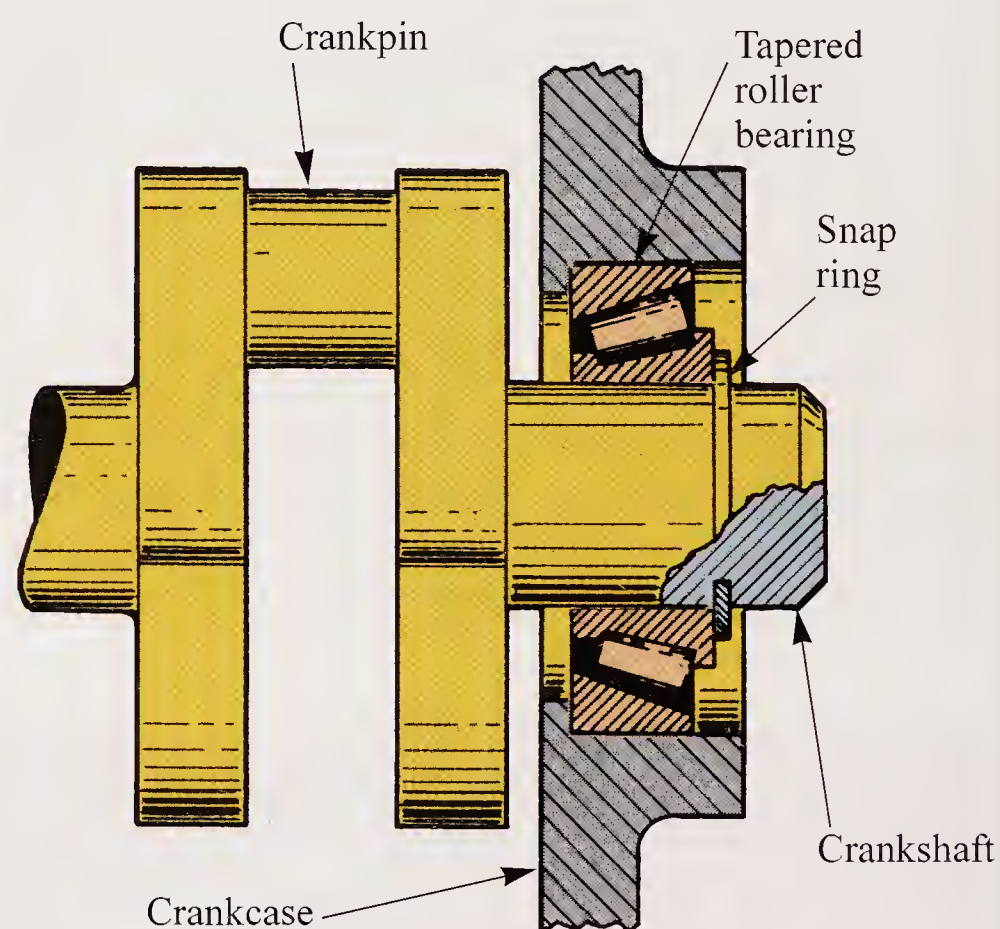

Figure 17-15. Typical use of tapered roller bearing as a crankshaft main bearing.
- Roller bearing. See **Figure 17-15**.